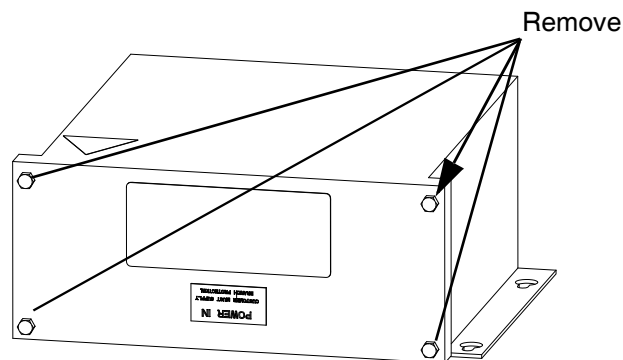

FIG. 8: Standalone Transformer
3. Remove the four screws on the transformer as shown in **Figure 8** and remove the front cover.